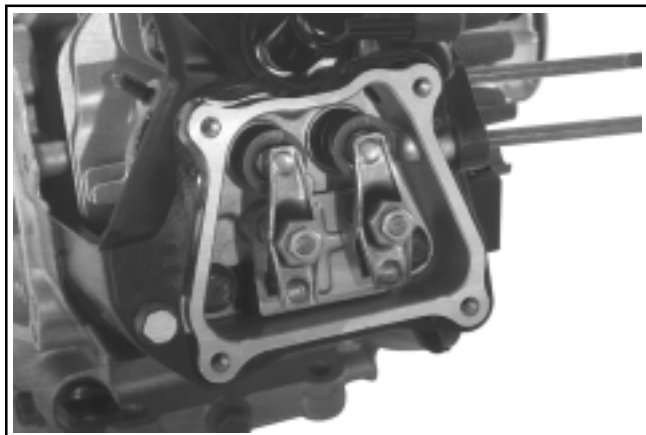

Figure 11-77. CS4, CS6. Cylinder Air Shroud Mounting Bolt Location.
**CS4, CS6:** Install and torque the single M6x1.0 mounting screw to **10 N·m (88.5 in. lb.)** See Figure 11-77.